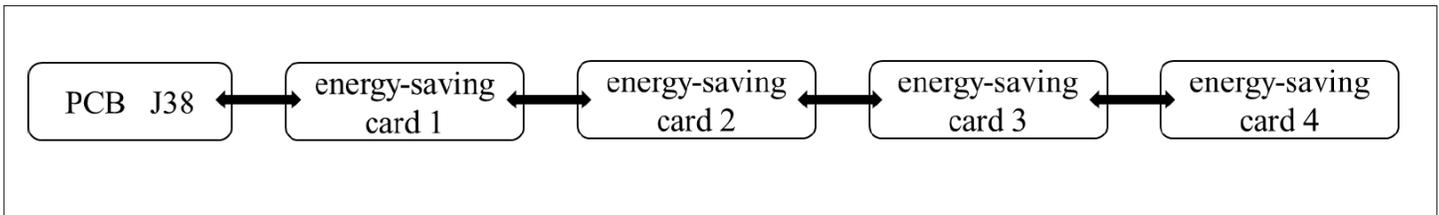

Figure 3-16 Connection of Energy-saving Card
4. The other end of the cable is routed from the top of the unit and connected to the J45 interface of the first sensor, then from the other end of the first sensor to the second sensor J45 interface, and so on, forming a link as shown in Figure 3-16.